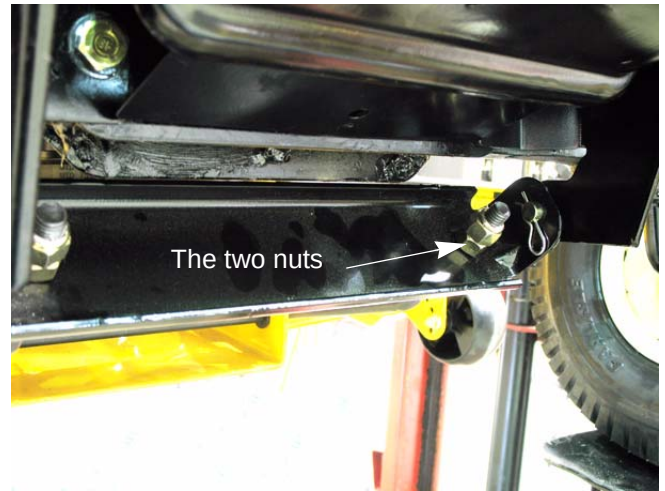

Figure 8.12
3. Working at the front of the tractor, loosen the two hex lock nuts at the front of the deck hanger rod. Thread the lock nuts away from the hex nuts behind them. See Figure 8.12.